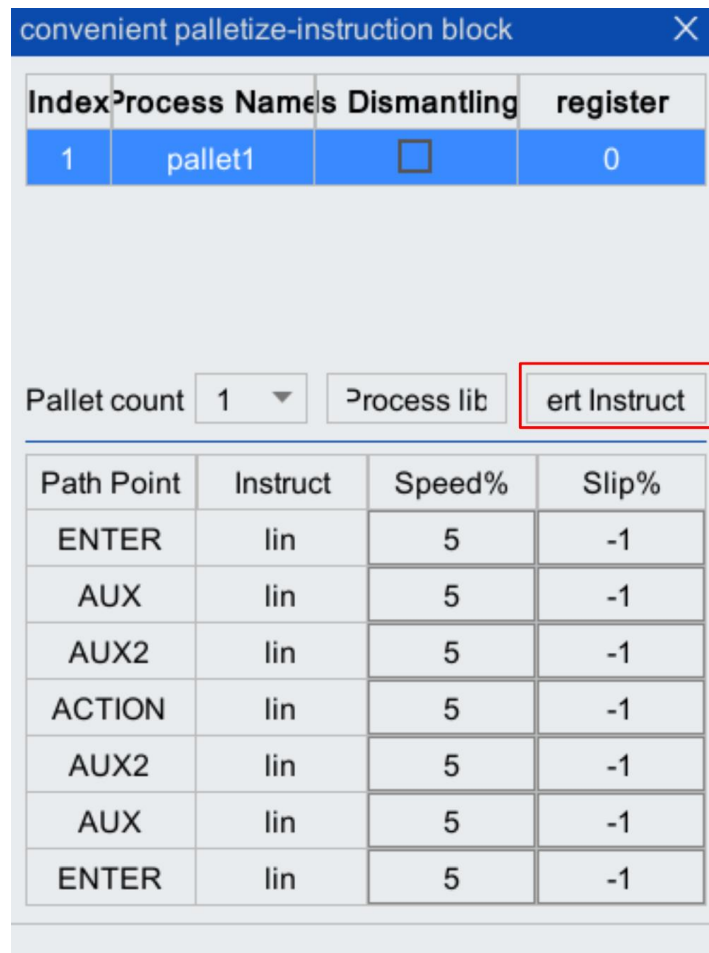

Figure 4-4 [Convenient palletizing-instruction block] interface
Step4. In the pop-up [convenient palletizing - instruction block] configuration interface, click and select the line of the parameter to be modified as required, and modify [instruct], [speed %] and [slip %]. As shown in Figure 4-4.